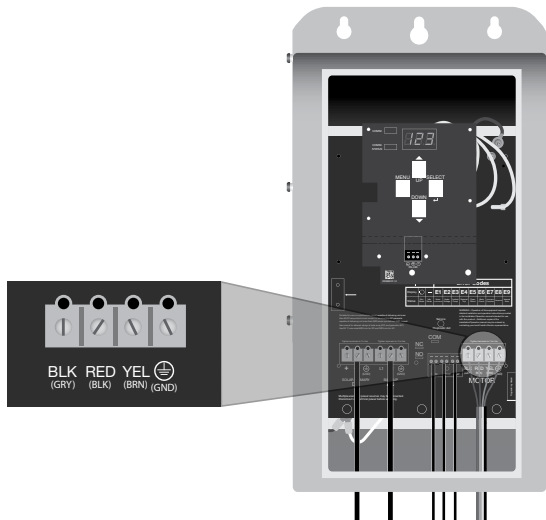

Figure 8. Motor Wiring Connection
1. Connect the cables from the Pump/Motor Assembly to the Terminal Block labeled "MOTOR" to terminals BLK, RED, YEL, and GND (Figure 8). (Torque specification: 15 in-lbs/ 1.7 N-m).